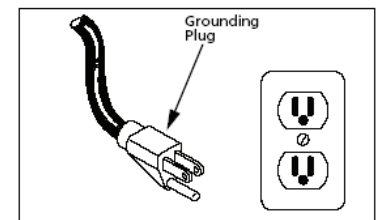

Figure 1
1. A ground fault circuit interrupter (GFCI) is required. **Risk of electrical shock! This pump is supplied with a grounding conductor and grounding type attachment plug. A grounded receptacle in conformance with current NEC and local codes must be used (See Figure 1). Do NOT use in swimming pool areas.**